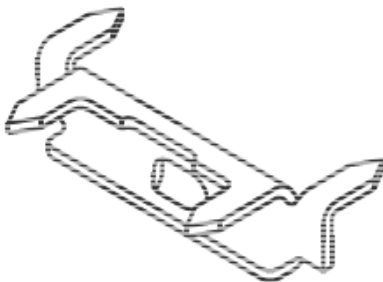

FIGURE 4 – TIGERCLAW TC-3S FASTENER
**5.4** Solid deck boards may be fastened using TigerClaw TC-3S hidden fasteners. Two fasteners are required at each support. The outer edge of the first and last deck boards shall be fastened to each joist with one 2.5-inch-long FastenMaster Trim Top™ Stainless Steel Coated Trim Screw. See Figure 4.